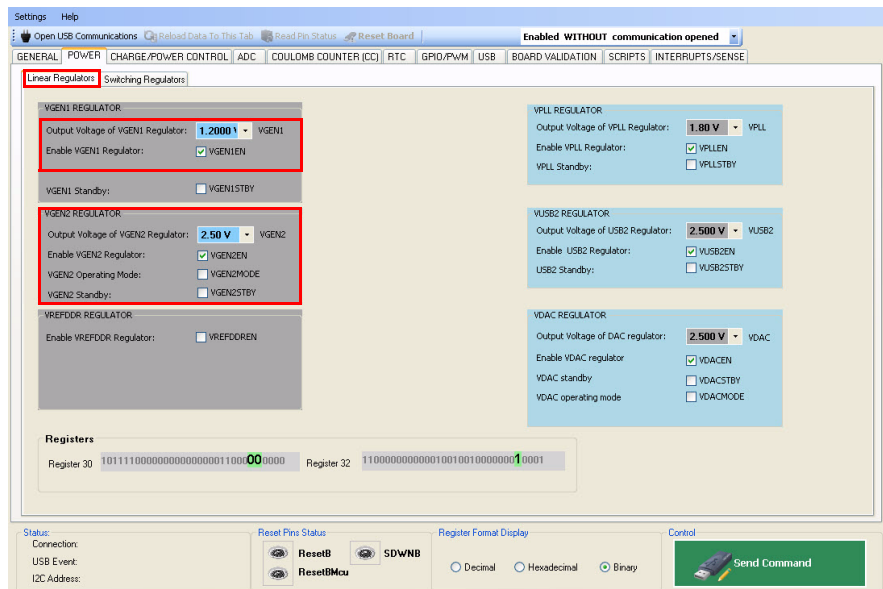

Figure 21. Linear Regulator Configuration Window
6. Click **Linear Regulators** sub-tab to enable or disable the linear regulators, configure the Standby mode and in the case of VGEN2 and VDAC, configure them to work with their internal or external pass device (see Figure 21).